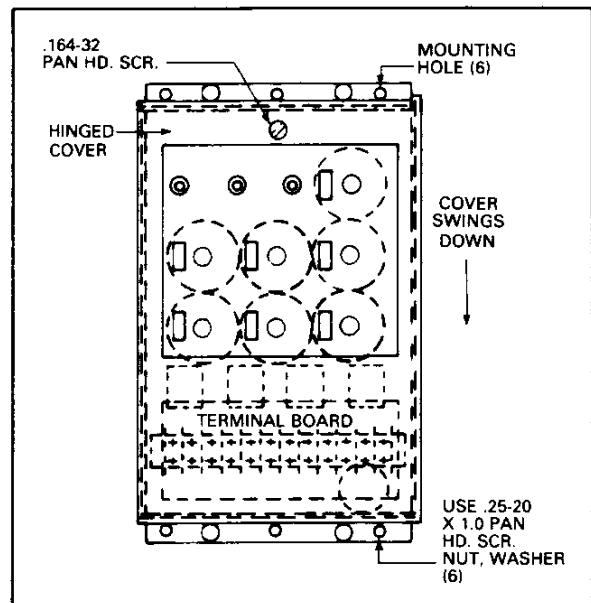

Fig. 9. Amptector in Vertical Position
5. Center punch all locations, drill six (6) .312 diameter holes and one (1) .750 diameter hole.
6. Mount the amptector on the door, Fig. 9 using .25-20 x 1.0 pan hd. scr., washer, lockwasher and nut. Finger tighten the nuts on the screws. Place the grommet into the .750 diameter hole.
7. With cell door in the closed position, remove the .164-32 x .375 pan hd. scr. on the amptector cover, see Fig 9, swing the cover downward 180 degrees to expose the terminals on the amptector, Fig. 9.